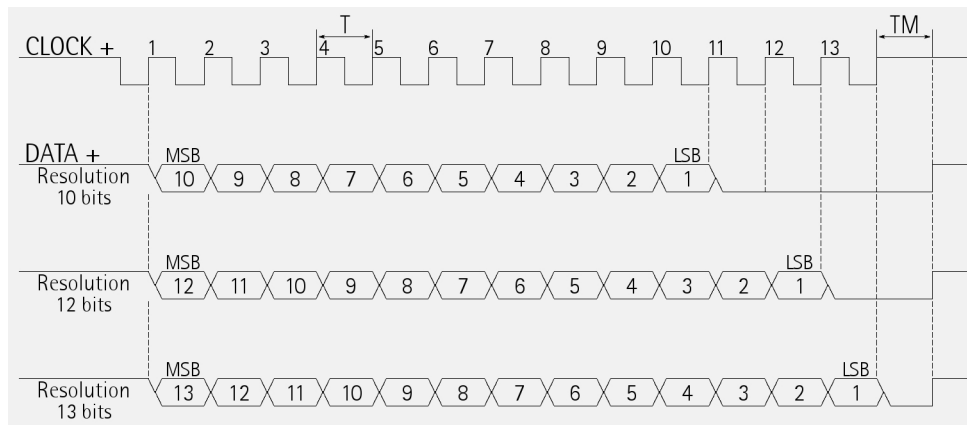
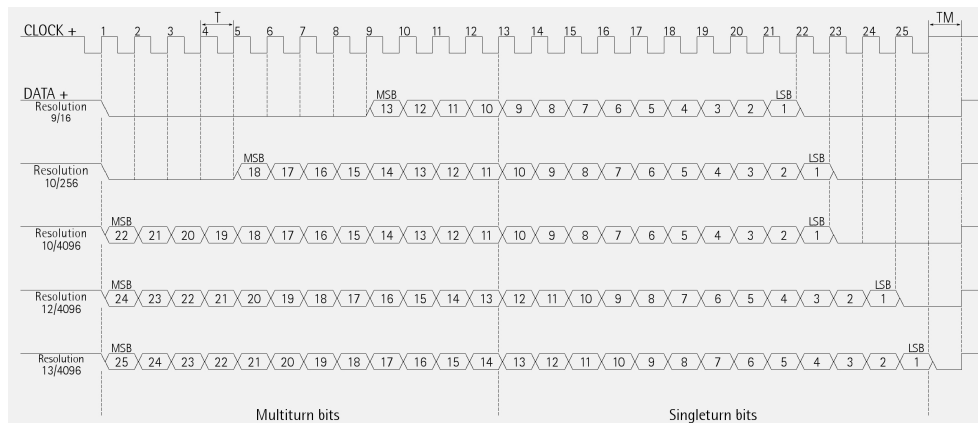

Figure 2 - Examples of Tree format protocol for singleturn models
Figure 3 - Examples of Tree format protocol for multiturn models
5.3 "TREE FORMAT" PROTOCOL (Figure 2 and Figure 3)
In the Figures some examples of the TREE FORMAT are available: they refer to 13-bit singleturn (Figure 2) and 25-bit multiturn (Figure 3) models with standard number of clocks (13 clocks and 25 clocks respectively).